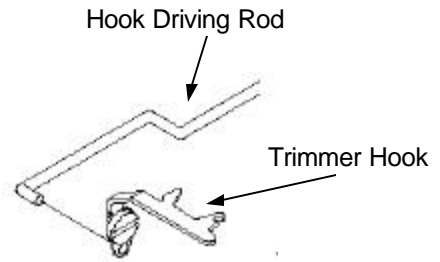

Figure 2
6. Unhook Hook Driving Rod from Trimmer Hook (Fork). See Figure 2
15. Replace the Hook Driving rod. See figure 2